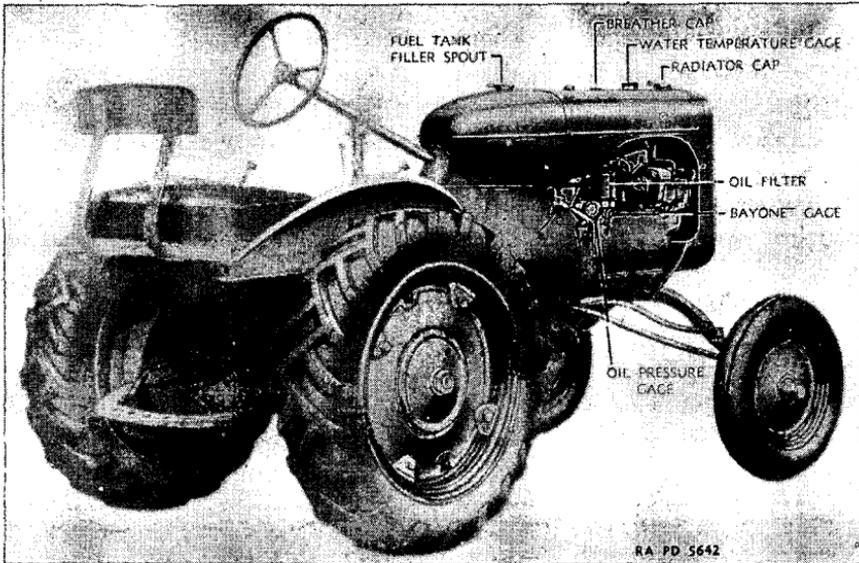

FIGURE 5.—Finding diagram.
*j.* After the engine is started, close the radiator shutter with the control located on the right side of the radiator shell, and keep it closed until the engine reaches normal operating temperature as indicated on the temperature gage mounted on the engine hood immediately behind the radiator cap (fig. 5). Then open the shutter sufficiently to keep the temperature normal.
b. The crankcase, or engine oil sump, is filled through the breather cap provided on the top of the engine hood (fig. 5). A bayonet gage (fig. 5) located near the oil filter on the right side of the engine is provided to indicate the quantity of oil in the crankcase; the oil level in the oil sump must be maintained to the "Full" mark on this gage. A plug, located in the bottom of the crankcase, is removed when necessary to drain the sump before refilling with fresh oil.
14. **Oil filter.**—An oil filter is provided in the engine oil pressure circuit for the purpose of removing abrasive particles from the engine oil (fig. 5). The filter element is of the removable type and should be changed as indicated on the lubrication guide.
15. **Breather cap.**—The breather cap (figs. 5 and 8) provides for ventilation of the engine sump. Should the breather become clogged with dirt, pressure will be created in the crankcase and cause oil leaks
b. The instruments should be referred to frequently to see if the engine is functioning properly. The instruments provided include a water temperature gage located on the hood near the radiator cap and an oil pressure gage mounted near the oil filter (fig. 5).